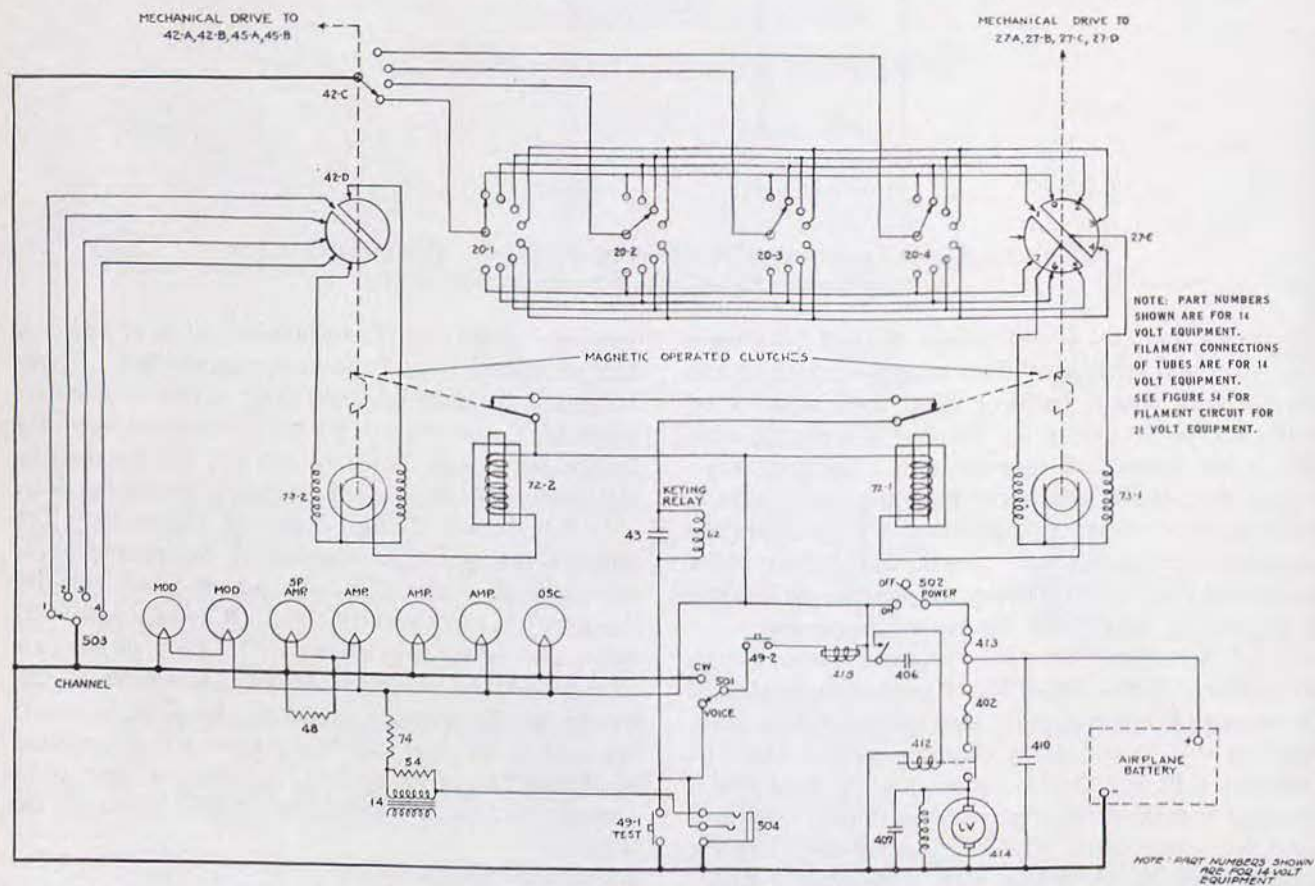

FIGURE 37—RADIO TRANSMITTER BC-338-A OR BC-353-A, LOW VOLTAGE CIRCUITS, FUNCTIONAL DIAGRAM
Refer to Figure 37. The operation of the channel selector mechanism is as follows: Assume that switch 503 is placed in number 2 position thereby selecting channel 2. A circuit is then made from negative side of the battery through 503 thence through one side of switch 42-D, motor 73-2, relay 72-2, ON-OFF switch 502 and fuse 413 to the other side of the battery. Completion of this circuit causes motor to rotate, driving rotor of 42-D to a point where the circuit is opened. Thus, switches 42-A, B, C, D, 45-A and 45-B are moved up to the channel number 2 position. When 42-C has
3.4.3.3 Microphone Jack:—The microphone jack provides a connection for microphone or key to control the radio transmitter output as shown in Figure 37.